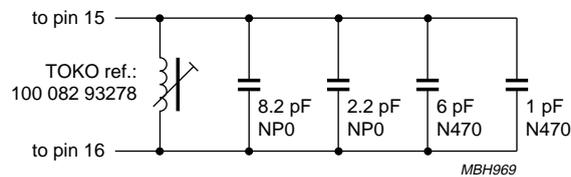
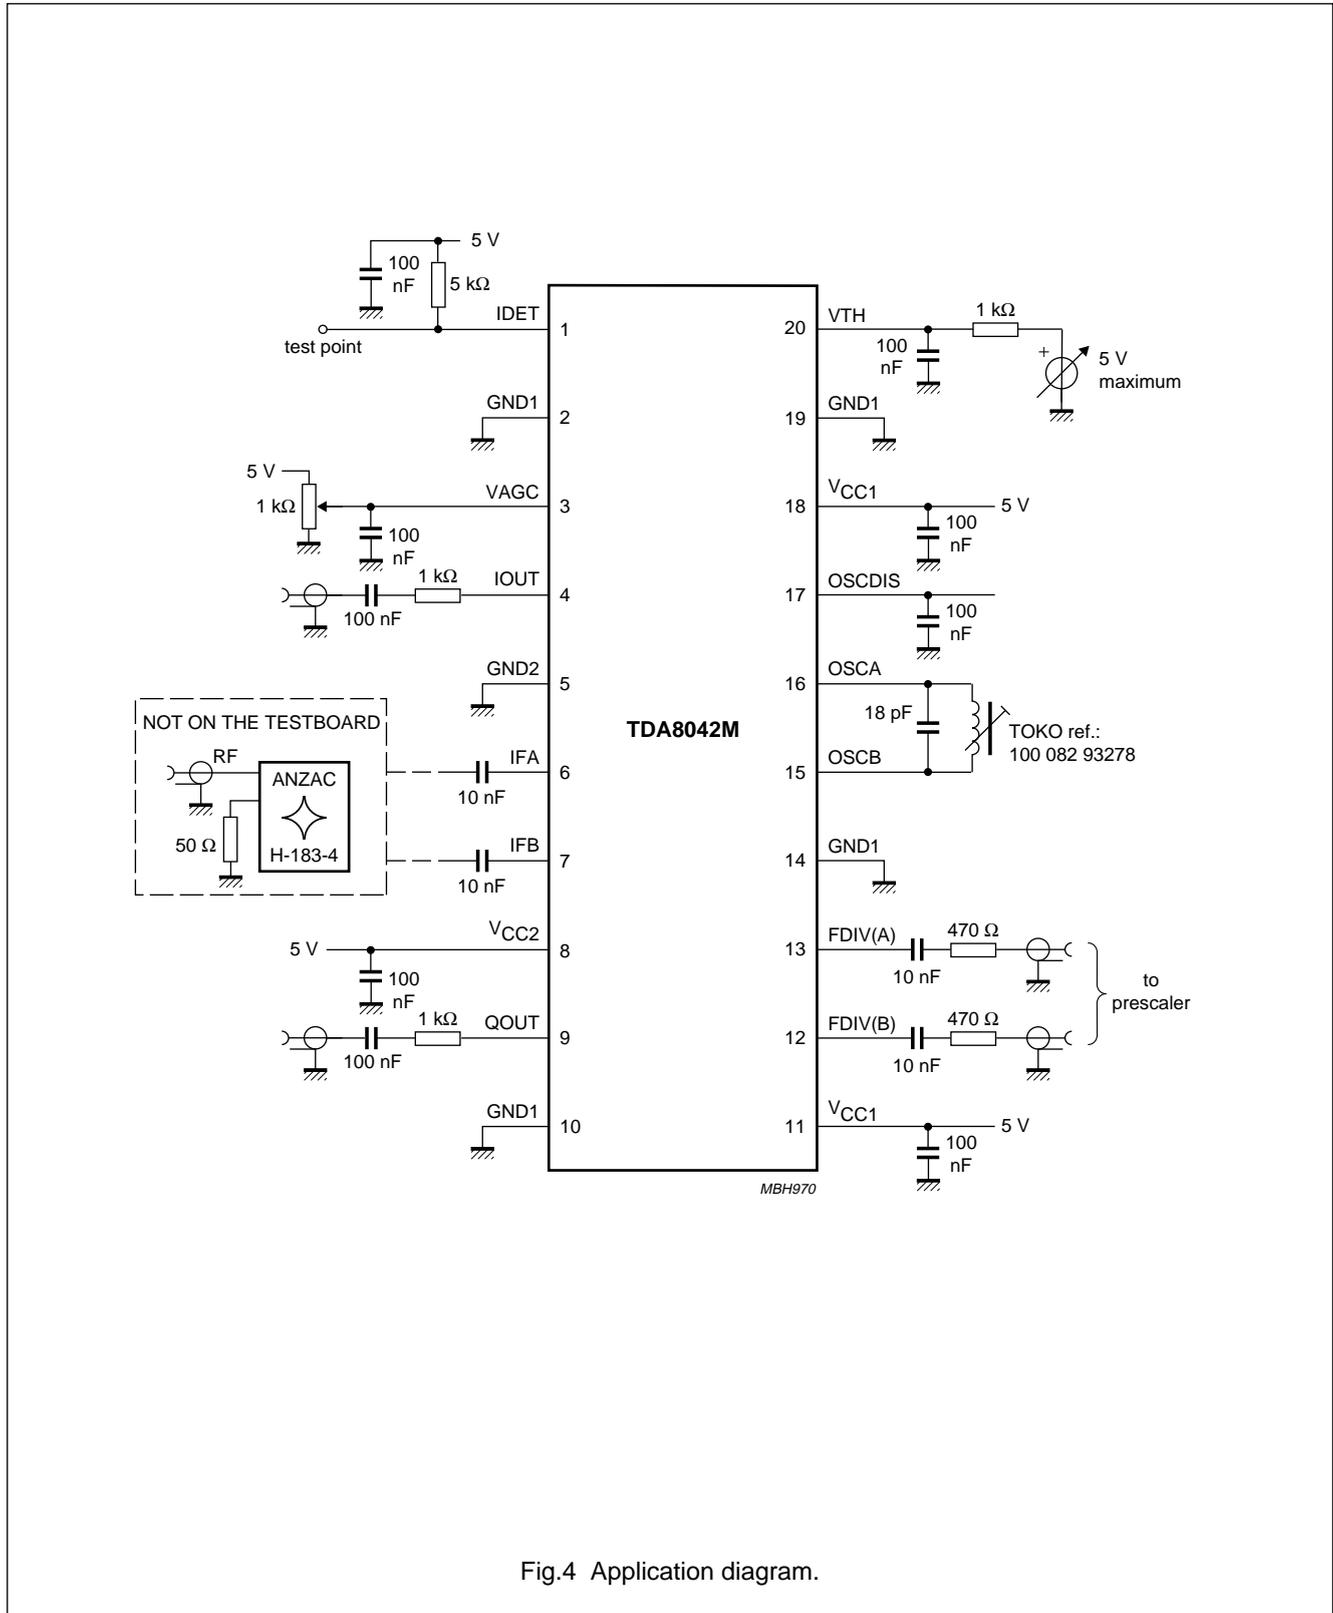

Fig.3 Temperature compensation circuit.
Fig.4 Application diagram.
$V_{CC} = 5\text{ V}$ ;  $T_{amb} = 25\text{ °C}$ ;  $R_{L(IQ)} = 1\text{ k}\Omega$ ; measured in application circuit of Fig.4; unless otherwise specified.
10. The drift of the oscillator frequency with temperature is defined for  $\Delta T_{amb} = 25$  °C. It is measured in the application circuit (see Fig.4) with a temperature compensated tank circuit. The temperature compensation used for this measurement is realized using the application which is depicted in Fig.3.